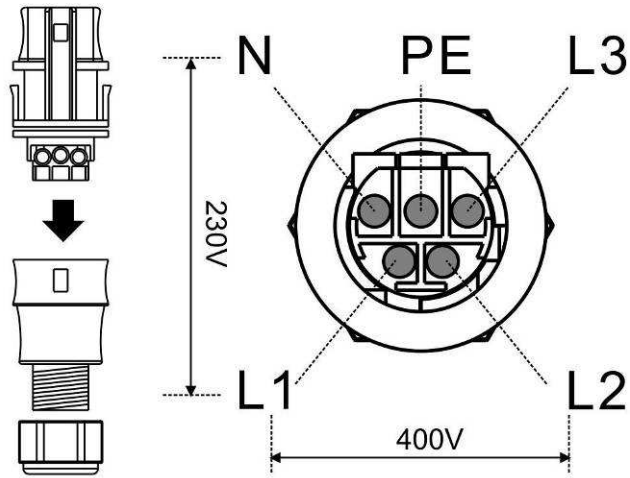

Figure 3
Step 4. Insert the utility cable through the cable gland. Connect the wires to the terminal block as shown in Figure 3.